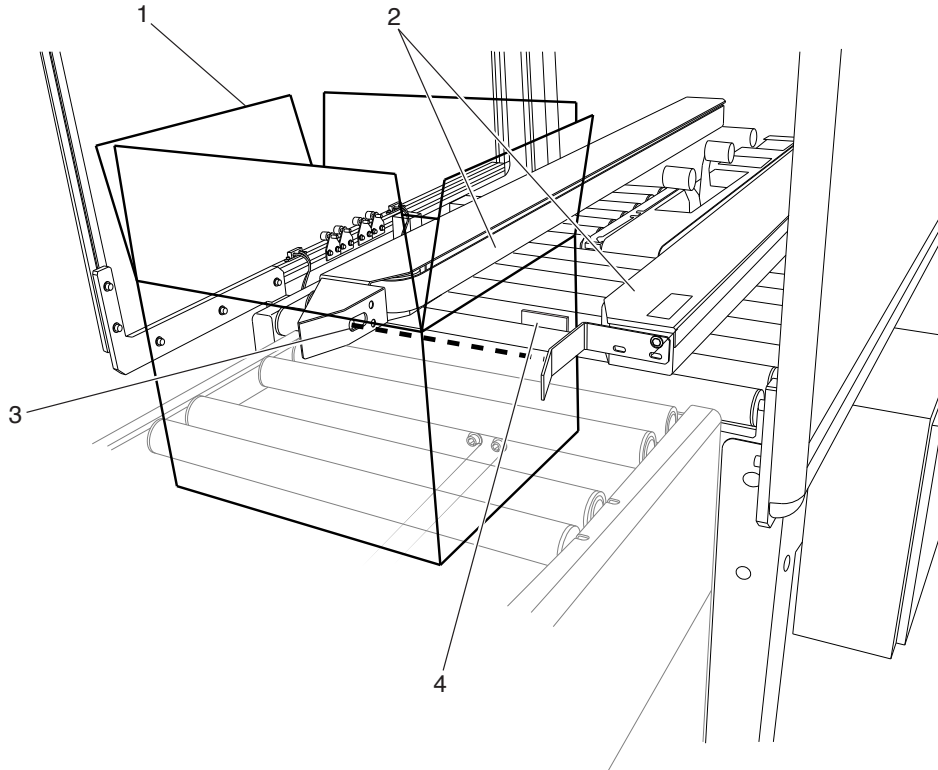

Figure 2
1.2 How the UA262024 Works – Figures 2 & 3